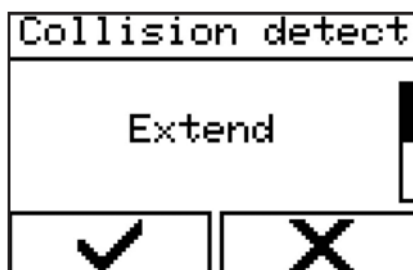

Figure 112 - Selecting the direction of travel
4. Select the direction of travel 'Extend' or 'Retract' (in this case: 'Retract', Figure 112).